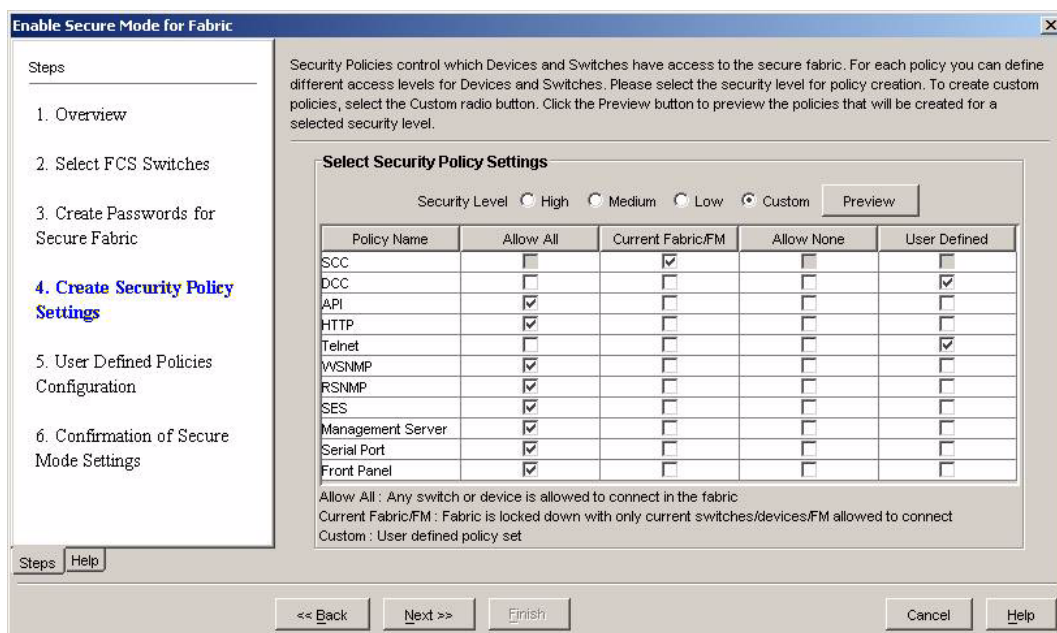

Figure 167 Customized security level settings
14. After clicking the **Custom** button, check the check box in the User Defined column that corresponds to the policy for which you want customized settings: for example, DCC and telnet (see Figure 167).